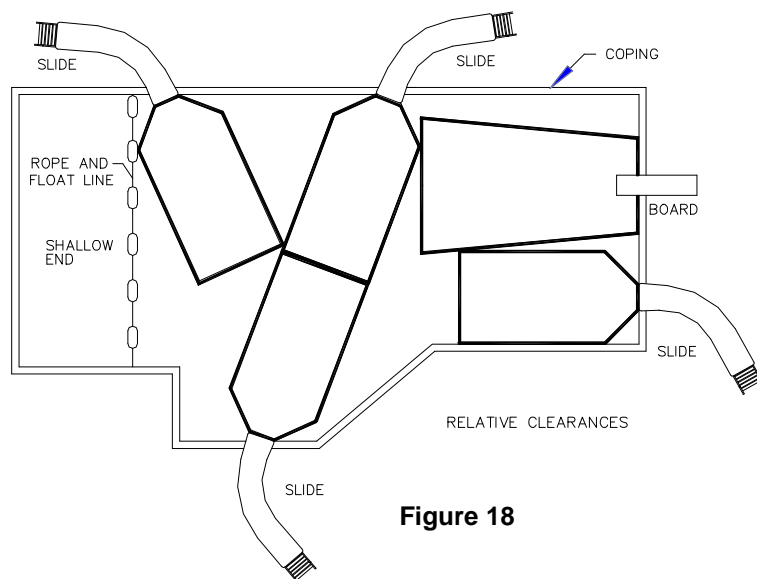

**Figure 17**
- A. The minimum clearance area in front of a properly installed diving board on an inground swimming pool is a minimum distance of three feet six inches (3'-6") on either side of the board's centerline as shown in Figure 17. Pt. C extends a minimum distance of "C" from the tip end of the board as shown in Figure 17. The width distance "W" on either side of Pt. C is given in CHART 1 and shown in Figure 17.